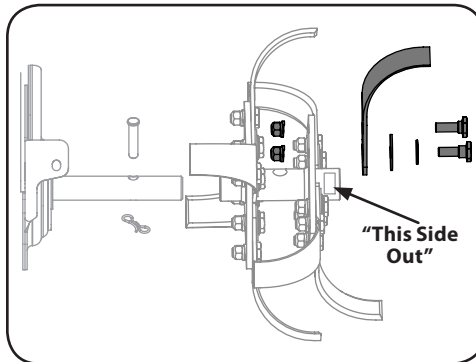

Figure 4-8
1. Remove the top hardware from the articulating tine. This consists of a shoulder screw on the outer side of the unit, and a lock nut and lock washer on the inner side of the unit. See Figure 4-8
2. Remove the lower hardware from the lower hole of the articulating tine. This consists of a shoulder screw, belleville washer and larger flat washer on the outer side of the unit, and a lock nut and lock washer on the inner side of the unit. See Figure 4-8